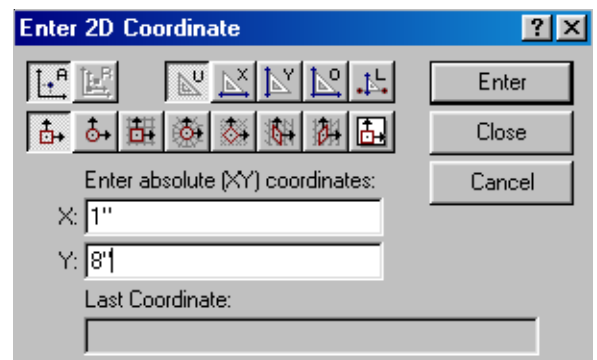
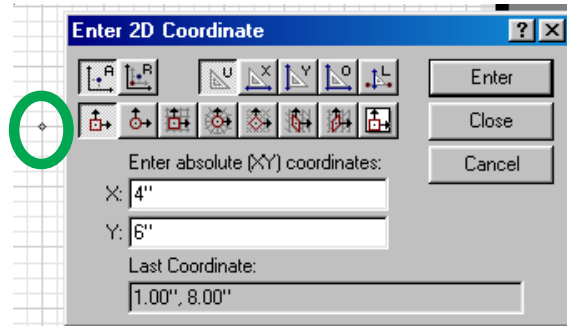

Figure 17
Figure 18
4. A dialogue box will appear. The next step is to enter in the coordinates for the top, left hand-corner of the box. In this box, enter in the number **1** for the X coordinate. Then select the **TAB** key on the keyboard. This moves the selection data to the Y coordinate. Enter the number **8** for the Y coordinate as shown in **figure 17**. Use the keyboard and to **select** the **Enter** key (The mouse can be used to enter the data, but it takes longer to do it this way). The 1, and 8 will appear in the coordinates last entered as seen in **figure 18**. It may also be noted in this figure that a dot appears on the drawing area that shows where the coordinate is as circled in **figure 18**.